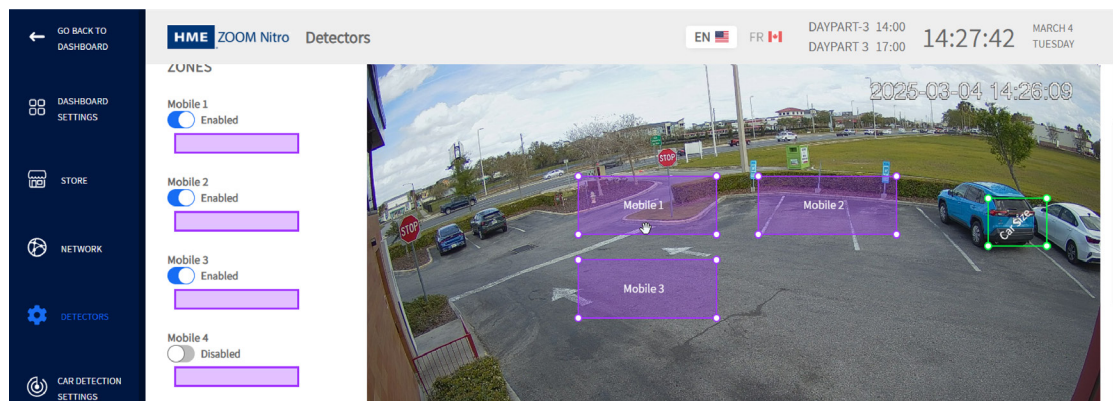

Fig. 23
6. If Pick-Up Zones is selected, toggle the switch to enable a zone, and a polygon (in purple or blue) will appear in your camera view. Fig. 23 shows Mobile 1, 2, and 3 enabled, so three purple polygons appear in the camera view. When you move the cursor over a polygon, it becomes a hand which allows you to drag it into position.